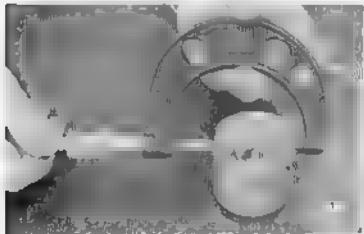

Fig. 3.52 Measuring piston skirt diameter
4. Measure the skirt of the piston perpendicular to the piston pin hole. [Fig. 3.52]